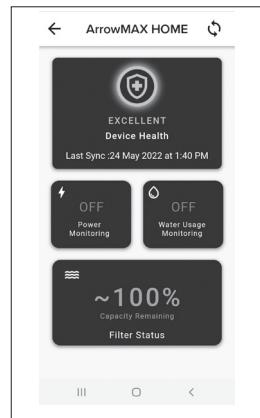

Figure 13: The Data & Stats
- c. Upon successful activation of the device, the following homepage will be shown with all the data and stats from the device. This is a living page that will be updated regularly when the device is connected to your phone through WIFI or Bluetooth. (**SEE FIGURE 13.**)